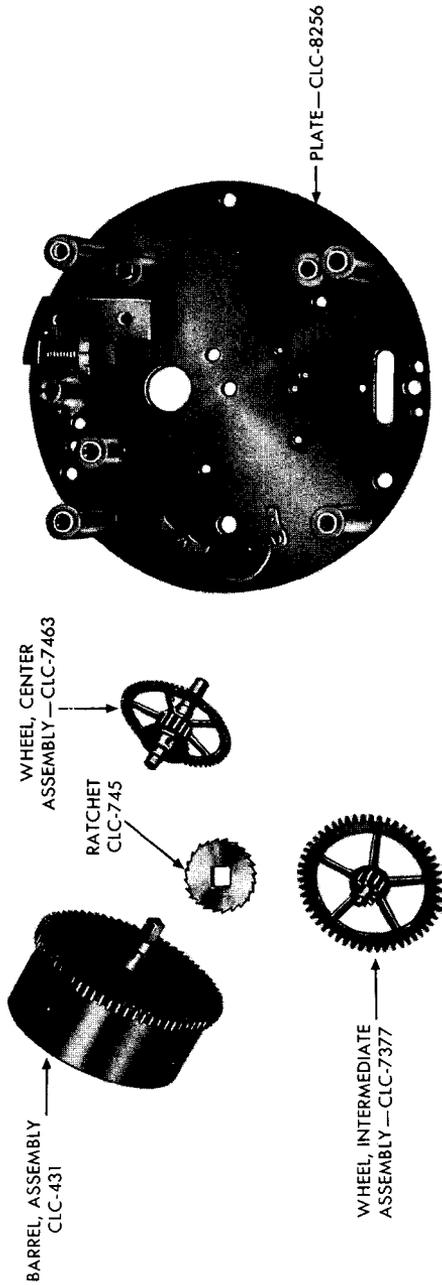

Figure 212 — Message Center Clock M1 — Center Wheel, Intermediate Wheel, Mainspring Barrel, and Ratchet Wheel Removed
mainspring barrel assembly, intermediate wheel, center wheel, and ratchet wheel (fig. 212).
e. **Replace Train Wheels and Mainspring Barrel** (fig. 212). Place center wheel in position on train side of plate. Place intermediate wheel assembly in position on plate. Place ratchet wheel in position on the mainspring barrel arbor with the teeth facing